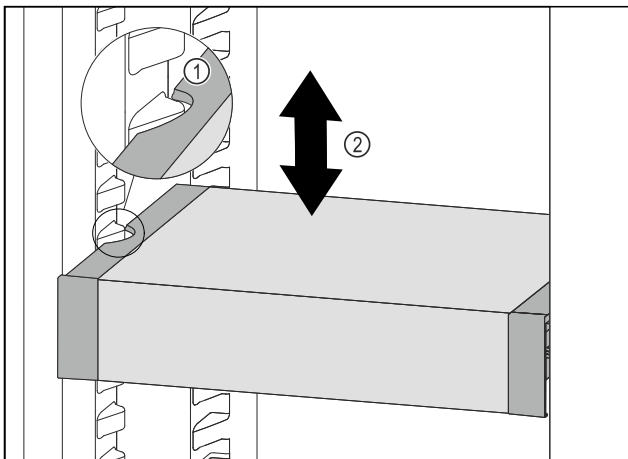

Fig. 94
- ▶ Pull VarioSafe forwards until the recesses in the side of the VarioSafe are at the level of the support rib in the refrigerator compartment. *Fig. 94 (1)*
- ▶ Move VarioSafe up or down in the refrigerator compartment until the desired height is reached. *Fig. 94 (2)*